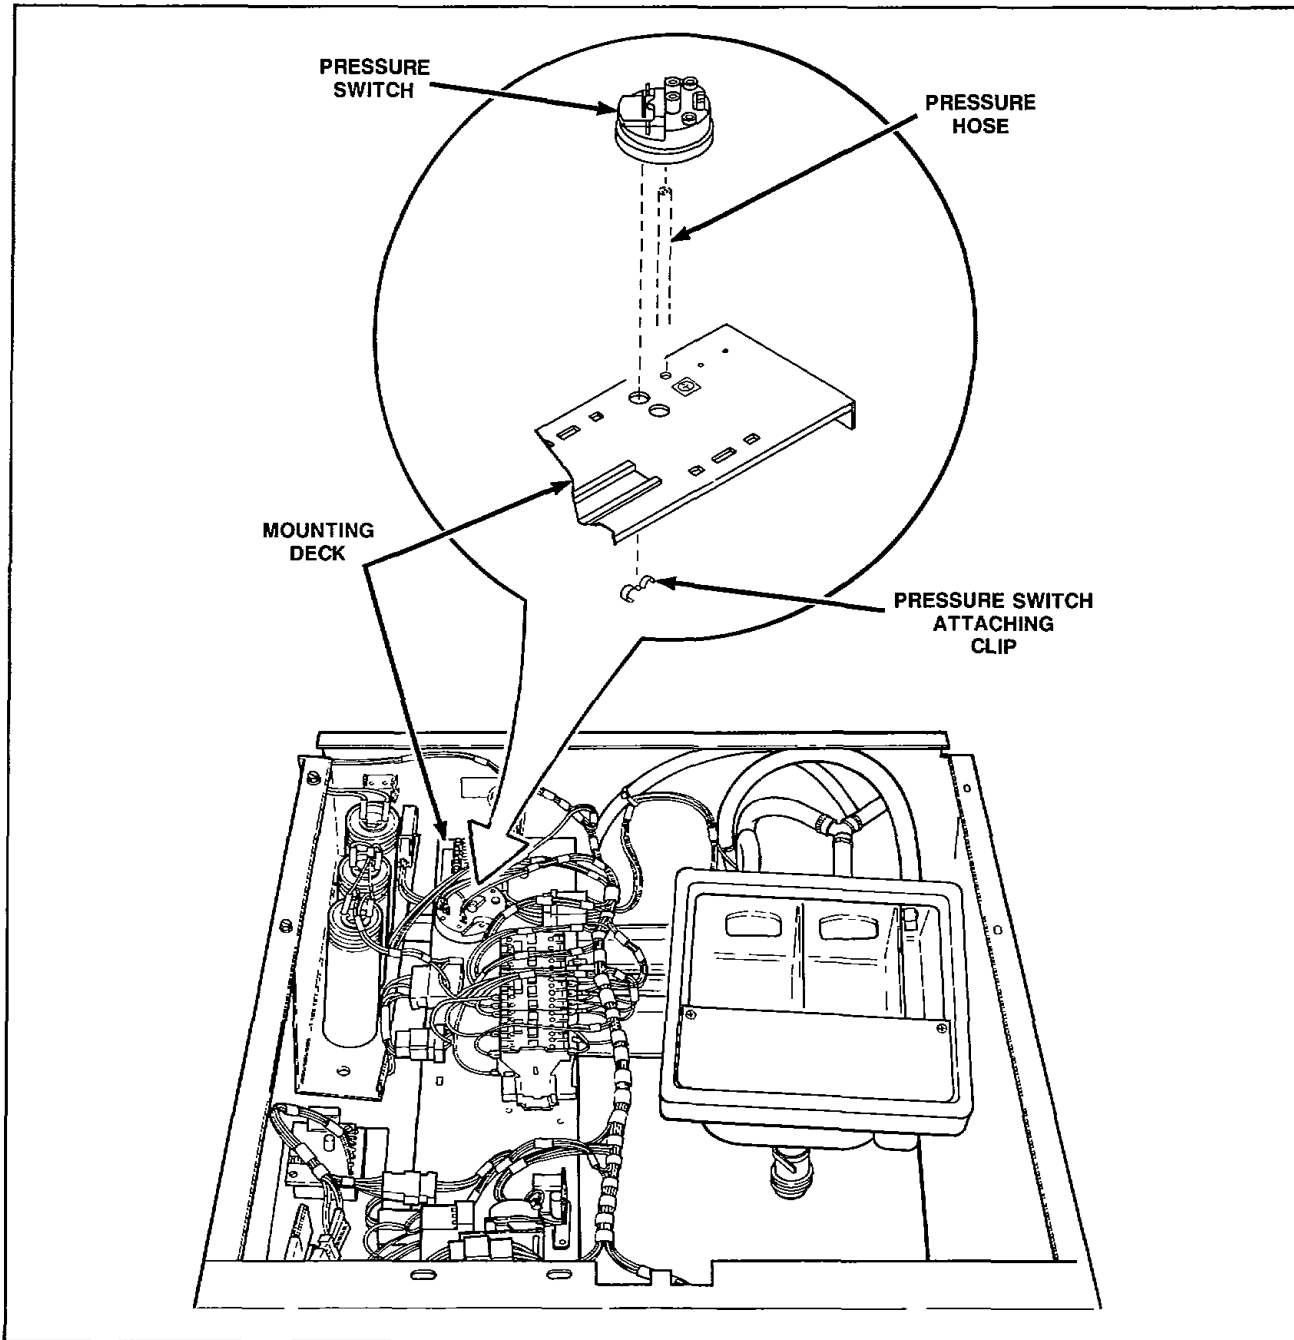

Figure 18
- e. Remove clip from underside of mounting deck holding the pressure switch to the deck, *Figure 18*.
- g. Lift pressure switch off the mounting deck far enough to permit disconnecting the pressure hose from the switch, *Figure 18*.